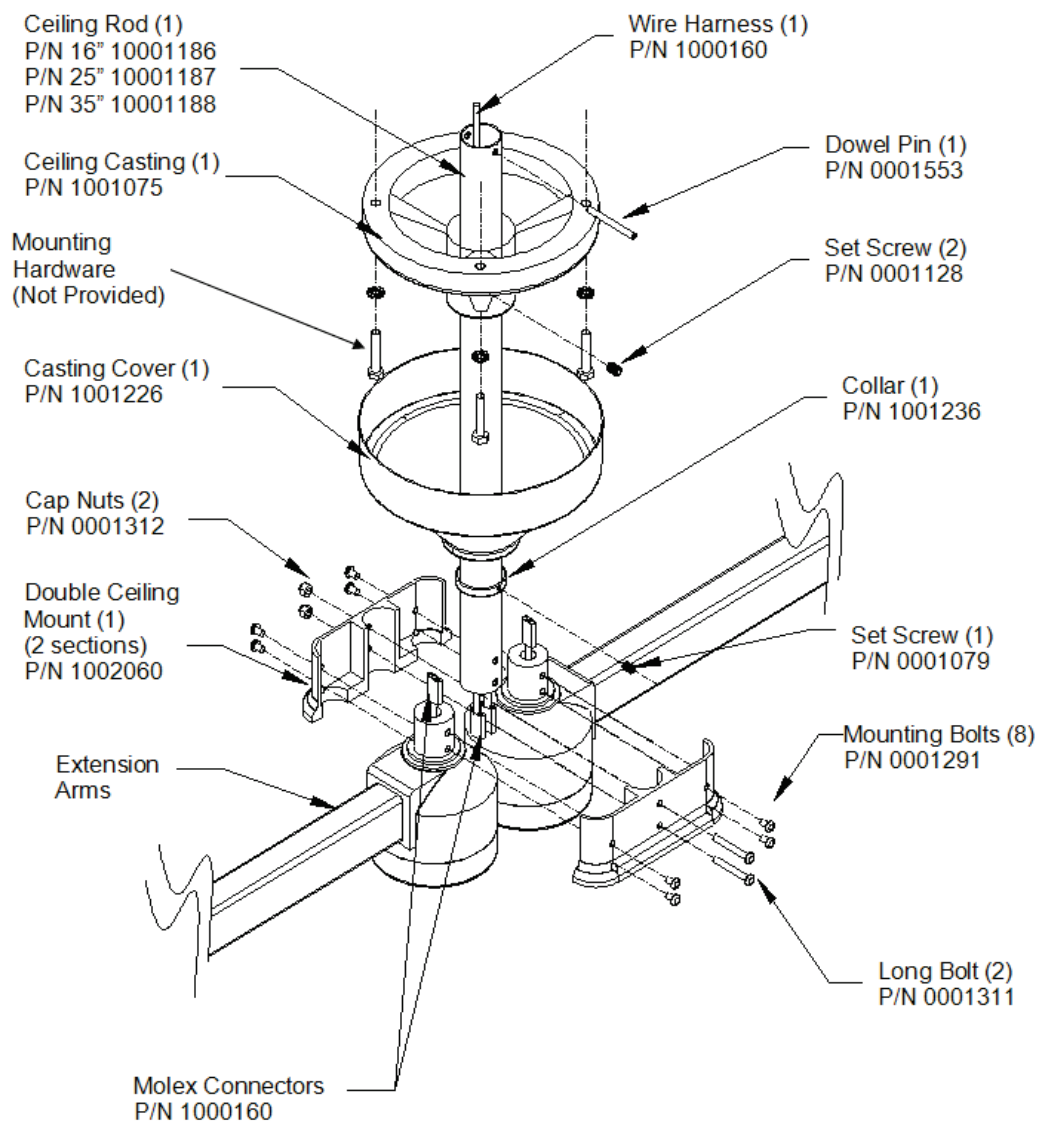

Figure 6: Dual Ceiling Mounting Components
- Slide the Bolt Cover up onto the ceiling rod as shown in Figure 6, then raise the Extension Arm Assembly to the Ceiling Rod and plug the Molex connectors together. Push the wire into the ceiling rod while inserting the Extension Arm Assembly into the rod. Secure the housing to the ceiling rod using the four supplied bolts as shown. Two 1/4-20 x 1/4" screws must be installed on one side of the ceiling rod. Two 1/4-20 x 3/8" screws and lock washers must be used to mount the stop bracket on the other side of the rod. Be sure the bend on the stop faces down, towards the arm.
Prior to installation ensure that all of the components shown in Figure 6: Dual Ceiling Mounting Components are present.